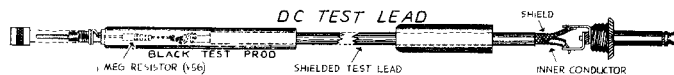

Fig. 13
(1) DC test lead. The DC test lead is made by connecting the phone plug (V41) on one end of the shielded test lead (V47). On the other end goes a small 1 megohm resistor (V56), which is then slipped inside the black test prod. See Figure 13.